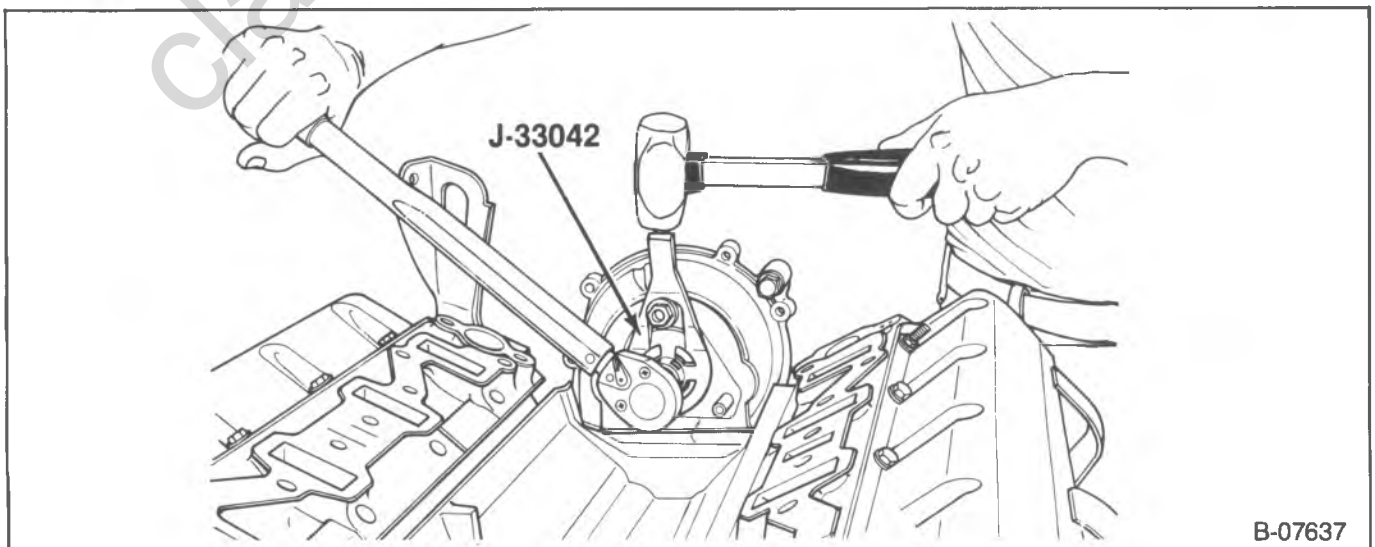

Figure 15—Marking TDC on the Front Housing
4. Fasten J-33042 to the gear and tighten (figure 15).